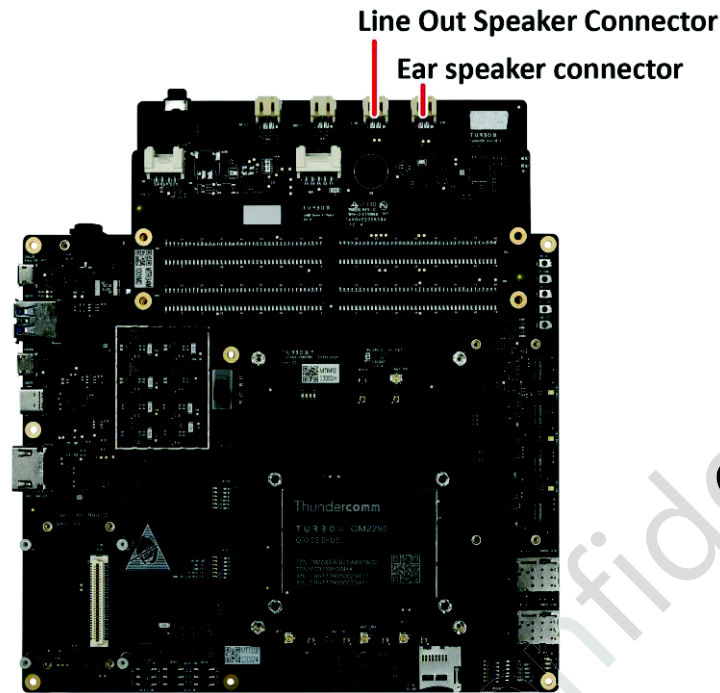

Figure 3-6. Speaker Connectors
Step 1. Refer to Figure 3-6 to connect a speaker to the board.